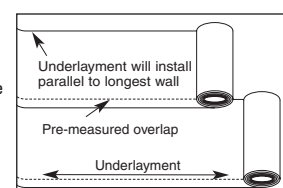

Figure 12
- The floating floor underlayment already has double-sided tape for ease of taping the pre-cut overlapping seams (Figure 12). If a non-adhesive underlayment is used, tape all seams with the included tape.